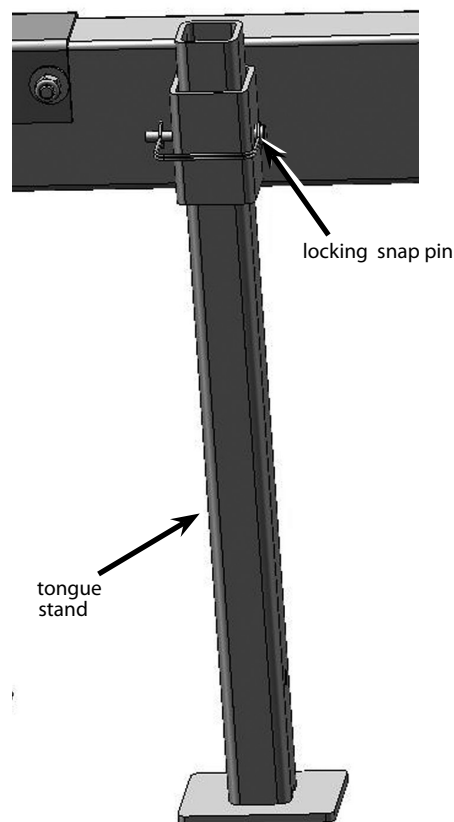

Figure 5
9. Install the tongue stand onto the tongue and lock into place in the standing position (not the towing position) using the locking snap pin. **SEE FIGURE 5.**